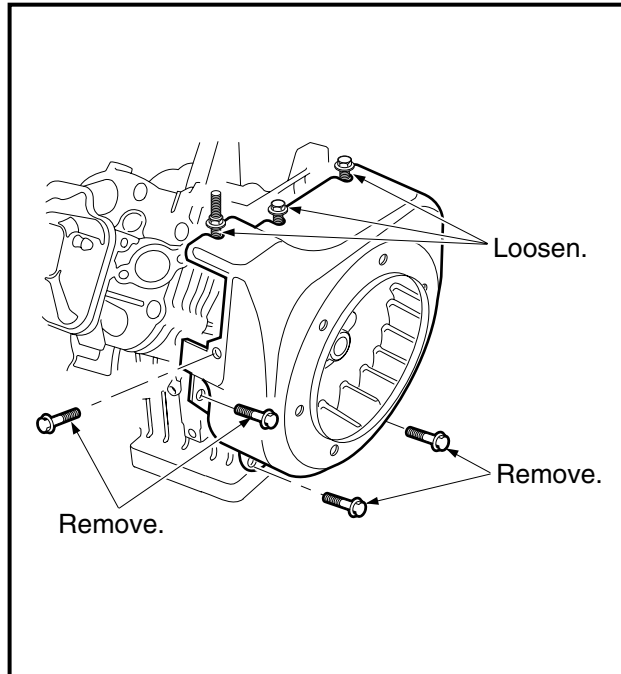

Figure 13-60 Flywheel Housing
1. Loosen three screws and remove the remaining four screws attaching the flywheel housing as shown, then remove the housing (**Figure 13-60, Page 13-32**).
3. Hold the flywheel (4), not the fan (7), with a strap wrench (5) and, using a 25 mm socket, remove the flywheel nut (and flat washer) by turning it counterclockwise (**Figure 13-60, Page 13-32**). **See following CAUTION.**